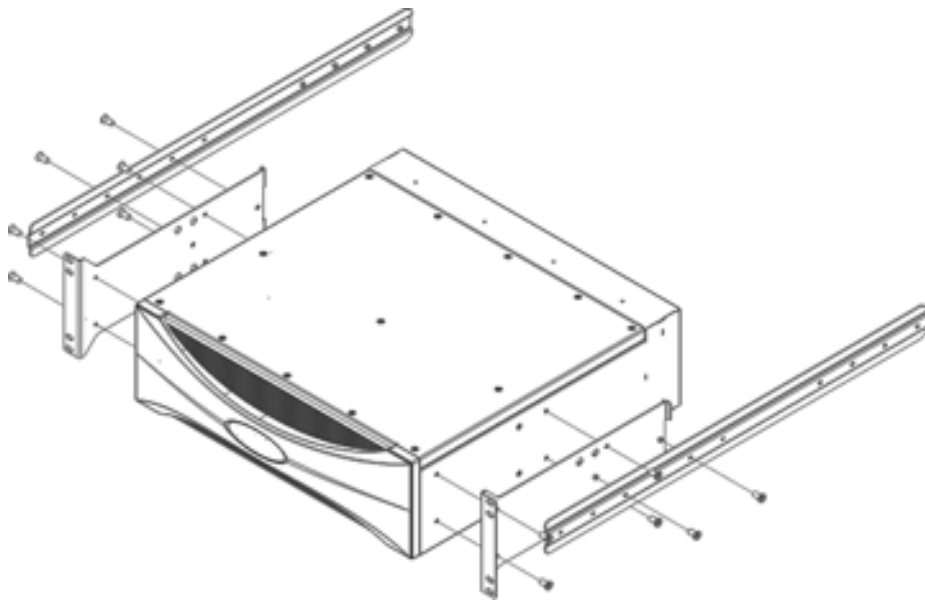

Figure 6 Example of Attaching the Rack Rails
3. Attach the left and right mounting brackets to the pro-xi 100 system. (**Figure 6**)
4. Attach the rail extensions to the pro-xi 100 system. (**Figure 6**)